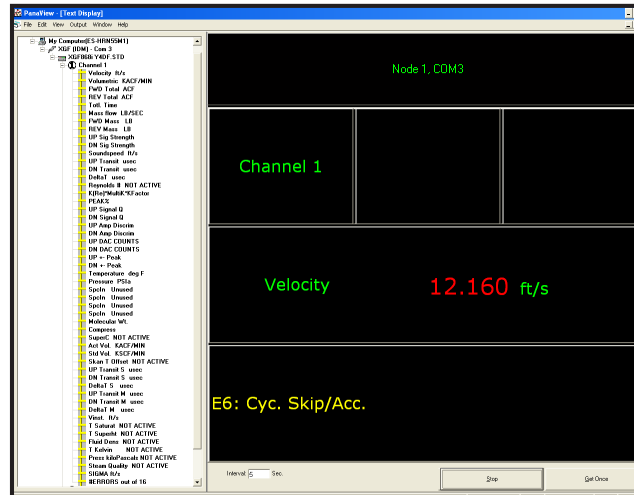

Figure 18: Multiple Text Screens in the *Text Display* Window
2. Repeat Step 1 for any desired additional process parameters, by double clicking on them in the PanaView network tree. PanaView automatically tiles the multiple text screens in the right pane of the *Text Display* window, as shown in *Figure 18* below.